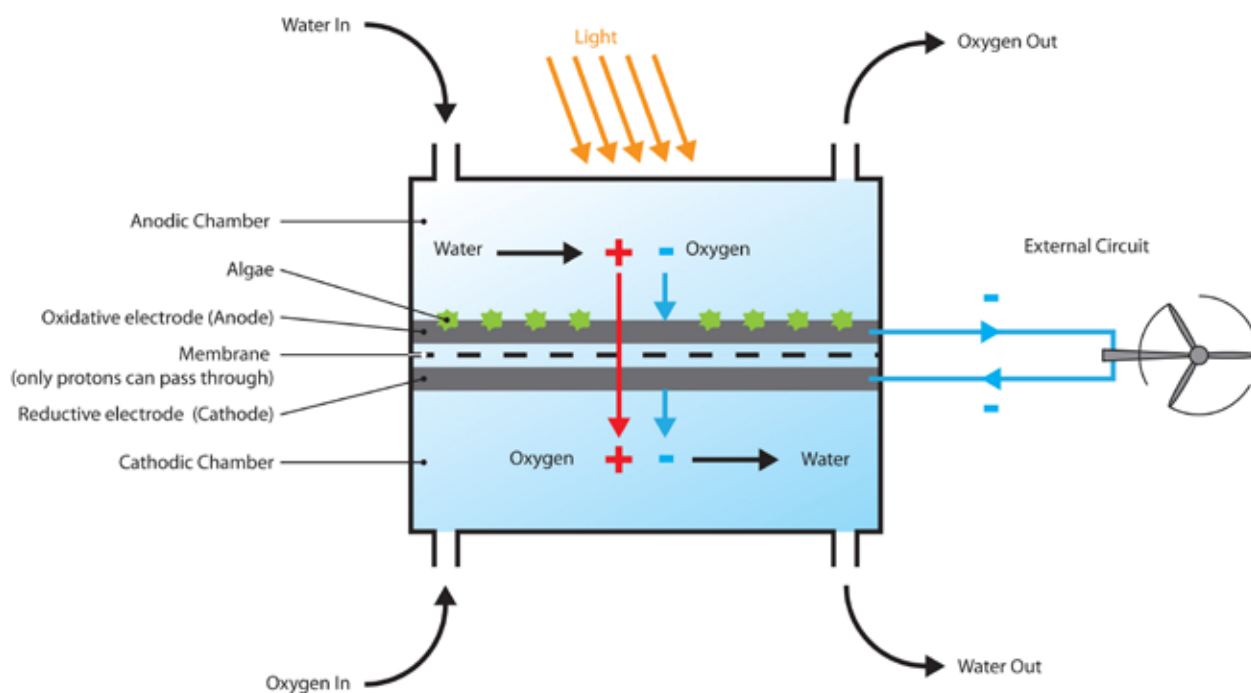
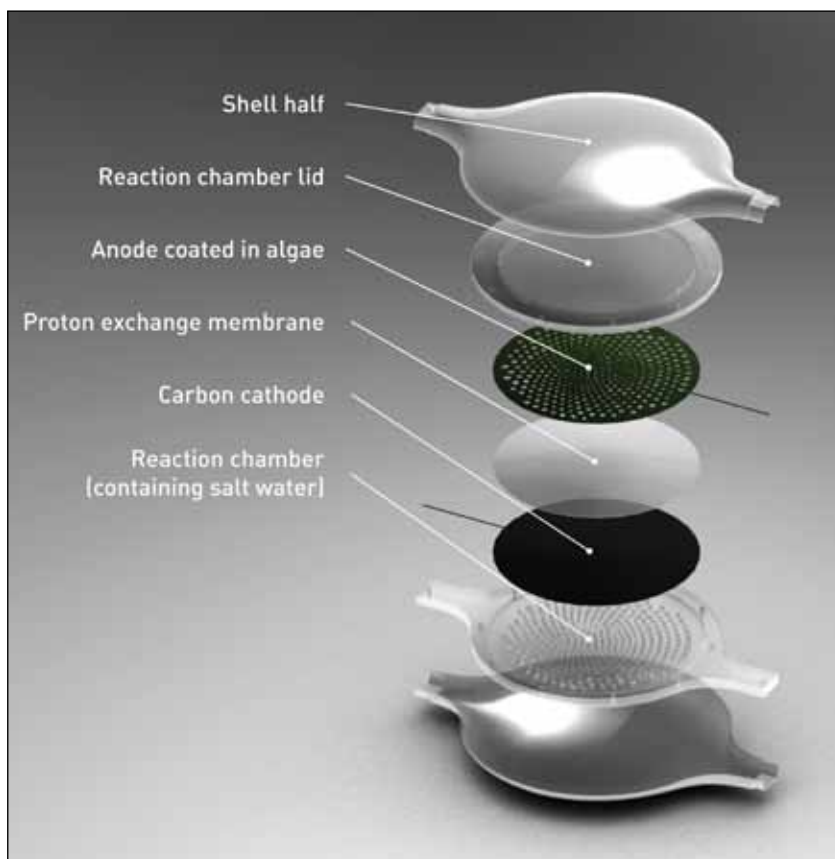

Figure 1 A schematic diagram of a biophotovoltaic device
Figure 2 A biophotovoltaic solar panel prototype, and an exploded view showing how it is constructed.
Biophotovoltaic (BPV) devices are biological solar cells that generate electricity from the photosynthetic activity of living microorganisms such as algae. When light falls on the algae, a series of reactions take place which split water into protons (hydrogen ions, H^+), electrons and oxygen. These are vital ingredients for transforming carbon dioxide and other inorganic materials into things like carbohydrates and proteins which allow the algae to grow. Biophotovoltaic devices exploit this charge separation to generate electrical energy. This is achieved by placing the algae inside one of two electrode-containing chambers separated by a membrane that only allows protons to pass through it, as shown in Figure 1. Electrons produced during photosynthesis flow through an external circuit in order to re-combine with protons and oxygen at the reductive electrode (cathode) to form water. The resultant current flowing in the external circuit can be used to power electronic devices.
Following this session, the scientific team asked the designers to build a prototype of the biophotovoltaic solar panel. They produced a 3D computer model of the device which they used to manufacture and assemble the components in the engineering department's workshop. The device, shown in Figure 2, operates on the principle outlined in Figure 1.
Another way to tell how active the occupants are is to monitor the temperature of the hot water tank. Each time hot water is used, cold water enters at the bottom of the tank. Figure 2 shows how the temperature of the water in a tank dropped as it was used during the day; the water heater switched on at 7:00 pm to bring the temperature up to its original level. Rapid changes in the temperature at the bottom of the tank indicate when the occupants are active.
Figure 2 How the temperature in a hot water tank varied over 24 h. When no water is being used, the temperature at the top slowly drops while the temperature at the bottom slowly rises.
When path integrating, ants keep track of the direction and length of every section of their journey (see Box 1). To make use of this information, ants must mentally add together these route segments so that they always have an estimate of the direct route back to their nest, effectively doing vector geometry (Figure 2).
Figure 2 The long and winding path of a desert ant as she searches for food in the desert. When she finds food (O), after a path of over 100 m, she takes a direct path back to her nest.